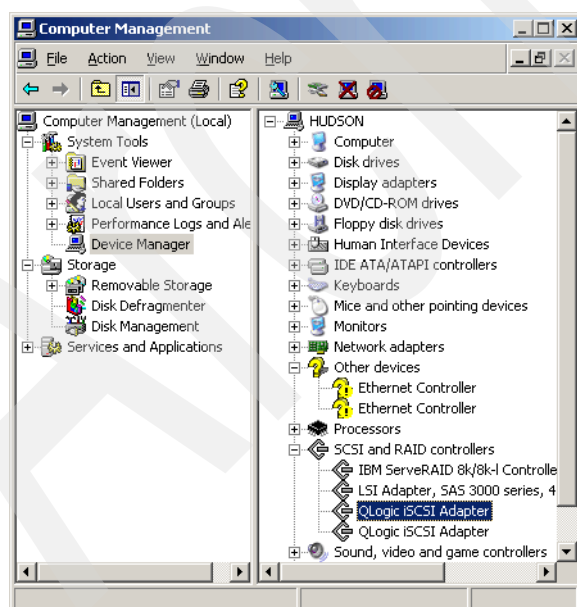

Figure 21-7 Device Manager - Installed QLogic iSCSI Adapter
7. Both Network Controllers are now installed and can be found in the SCSI and RAID controllers section of Device Manager as a QLogic iSCSI Adapter. See Figure 21-7.